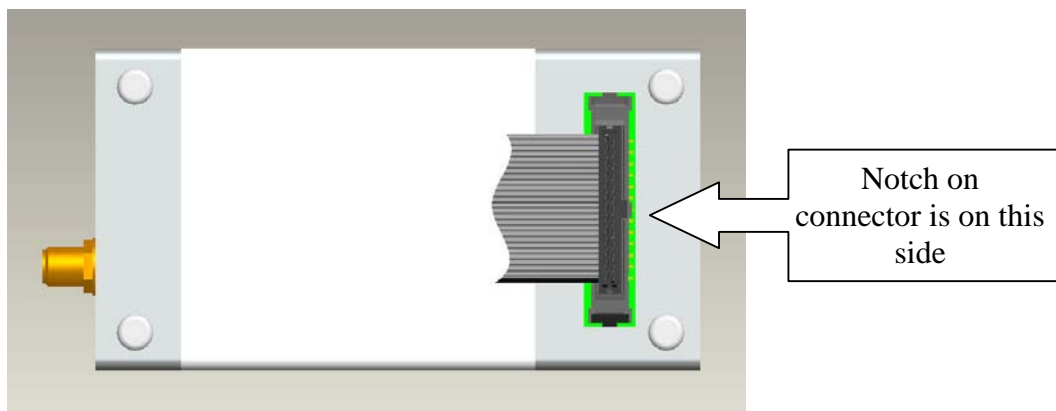

Figure 10: Multi Interface Connector Notch Location
5. Connector notch faces towards opposite end to the antenna connector as shown in Figure 10